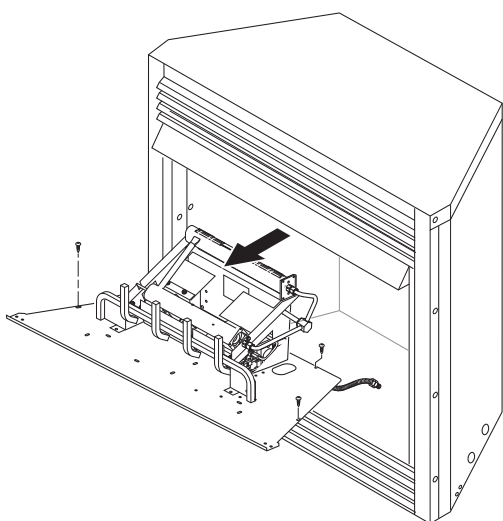

Figure 19 - Removing Log Base Assembly From Fireplace
2. Remove screws that attach log base assembly to fireplace (see **Figure 19, Page 17**). Carefully lift up log base assembly and remove from fireplace (see **Figure 19, Page 17**).